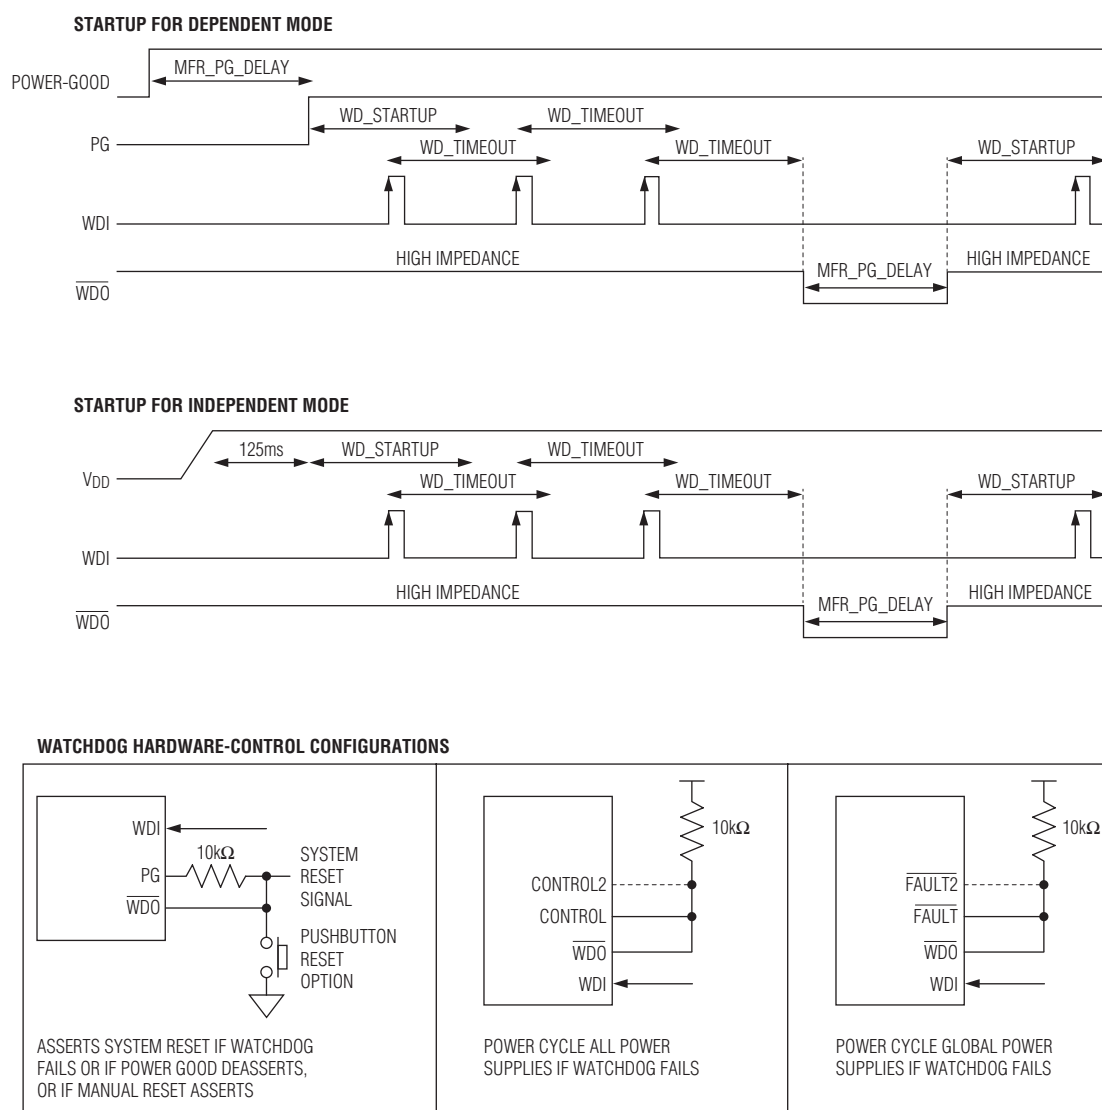

Figure 4. External Watchdog Operation
In both dependent and independent modes, the WDO pin can also be configured to act as a manual-reset (MR) input. When the WD_WDO_MR bit is set in MFR_WATCHDOG_CONFIG, the WDO pin becomes a digital input/output pin that detects a falling edge, debounces the falling edge for a 200ms period, and then once the manual reset has been qualified, the device asserts the WDO output low for the time configured in MFR_PG_DELAY before releasing the pin and restarting the watchdog function. To prevent glitches from occurring in the reset signal, the device seizes the reset signal as soon as it qualifies the manual reset and holds the WDO output low for the MFR_PG_DELAY time. The MFR_PG_DELAY time should be configured for a time longer than the manual-reset pulse length. When the time configured in MFR_PG_DELAY expires, the device releases the reset signal and restarts the watchdog as long as the pin is high. If the pin is low when the WDO pin is released, the device waits for the pin to go high (debounced by 20ms) before restarting the watchdog function. See Figure 4.